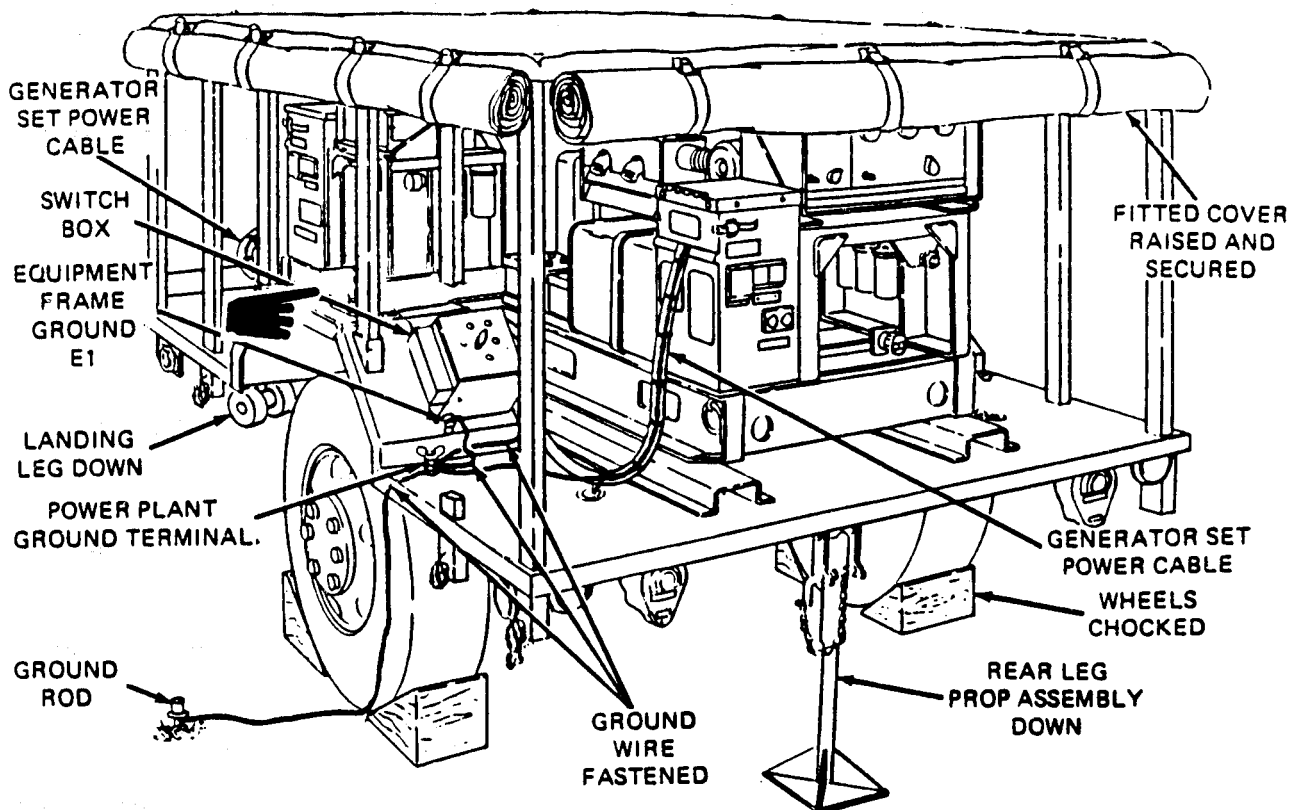

Figure 4-2. Installing Power Plant.
- (13) Refer to DA Form 2258, Depreservation Guide for Vehicles and Equipment, packed with power plant and follow instructions given for putting power plant in service.
- (14) Stow all authorized accessories in accessory box.
- (15) Install bows on power plant (paragraph 3-11, b.(2)).
- (16) Install fitted cover on power plant (paragraph 3-11, a.(2)).
**4-2. Installation.** (See figure 4-2.) Installation of the power plant at a worksite involves positioning the trailer and grounding the power plant.
- (1) Select an area as level as possible to install power plant and position trailer.
- (2) Set trailer handbrakes and lower trailer support leg.
- (3) Chock both wheels and lower rear leg prop assembly. Adjust leg prop assembly by turning inner leg until leg base makes firm contact with ground.
- (4) Lift and secure fitted cover in raised position away from generator set exhaust.